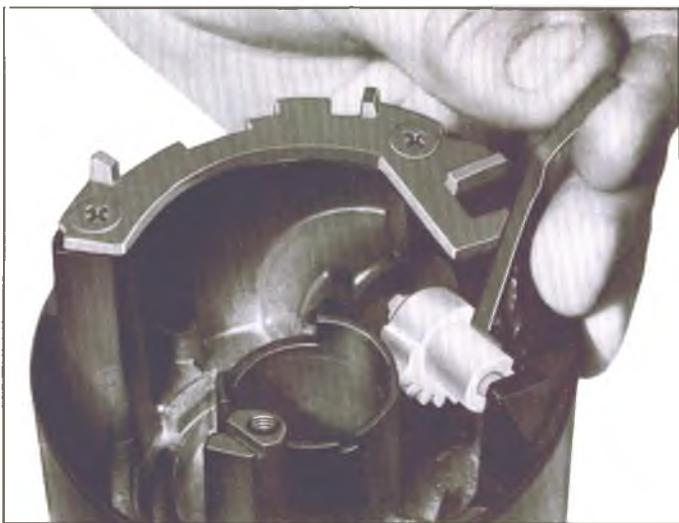

Fig. 70—Installing Rack Preload Spring
3. Insert the rack preload spring into the housing from the bottom side. The long section should be toward the handwheel and hook onto the edge of the housing (fig. 70).